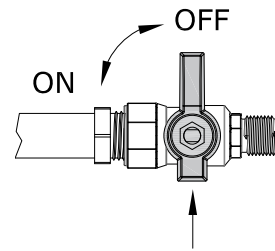

Figure 9.5 - Step 1
5. Remove and retain (4) screws from the back media tray. Remove media tray. See Figure 9.5.
6. Install (3) halogen bulbs (included in components packet) into the lamp base.